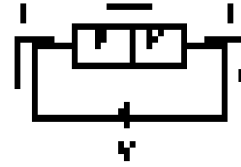

Fig. 2.2
**Reverse Biased Diode** On reverse biasing, the majority charge carriers are attracted towards the terminals due to the applied potential (Fig. 2.2). This results in widening of the depletion region. Since the charge carriers are pushed towards the terminals no current flows in the device due to majority charge carriers. There will be some current in the device due to the thermally generated minority carriers. The generations of such carriers are independent of the applied potential and hence the current is a constant for all increasing reverse potential. This current is referred to as 'Reverse saturation current,  $I_{co}$ ' and it